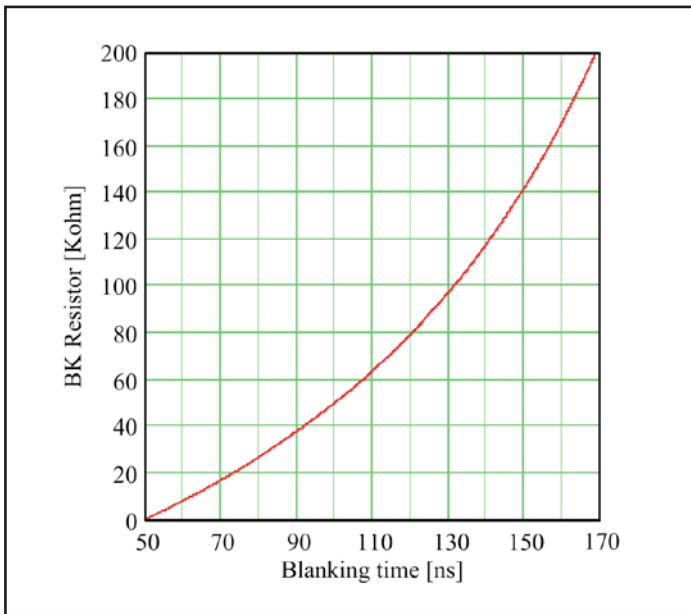

Figure 5 –BK Resistor selection versus Blanking Time
3.1 The blanking timer provides noise filtering for typical switching power conversion that might cause premature reverse current detection by masking the reverse fault condition. The shortest blanking time is 50 ns when the BK pin is connected to ground. Connecting an external resistor (R_{BK} , reference designators R6 for SiP1 and R13 for SiP2) between the BK pin and ground will increase the blanking time as shown in Figure 5.